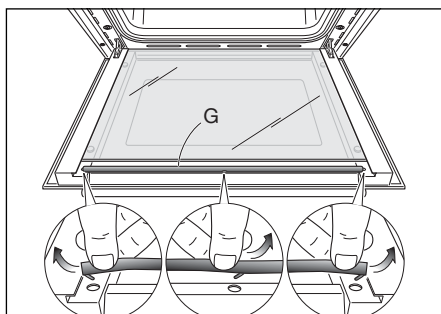

Fig. 40d
- Remove the seal "G" by unhooking the three fixing hooks (Fig. 40d).